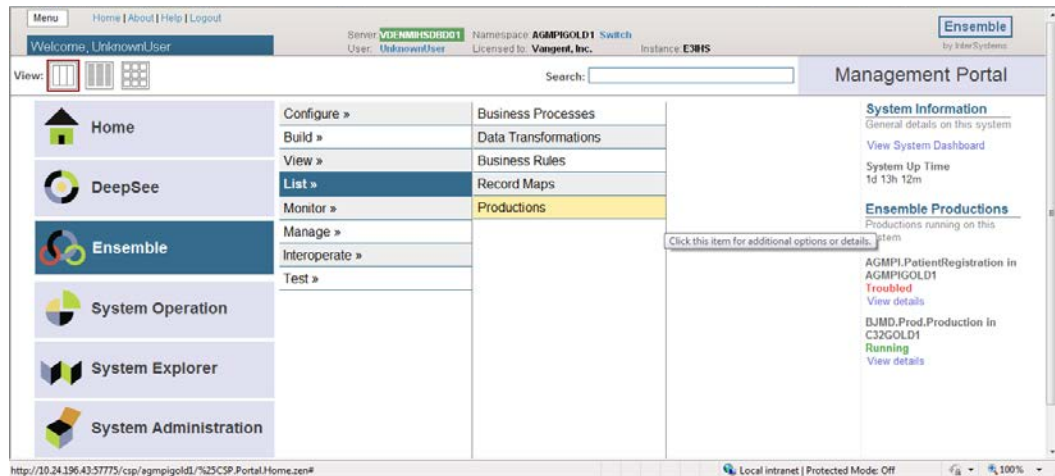

Figure 4-2: **Productions** menu option on the **Management Portal** home page
3. Click **Productions**, as shown in Figure 4-2.